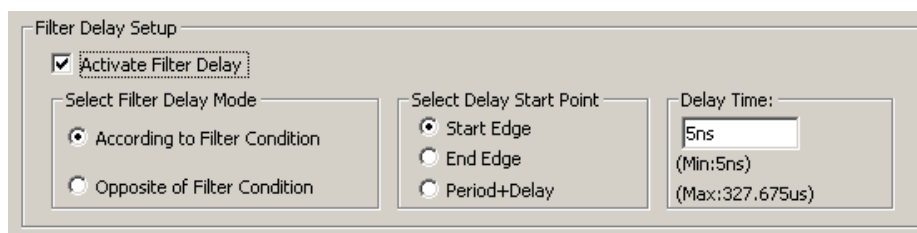

Fig 4-143 – Filter Delay Setup
1. Click on the **Activate Filter Delay** as shown in Fig 4-143.